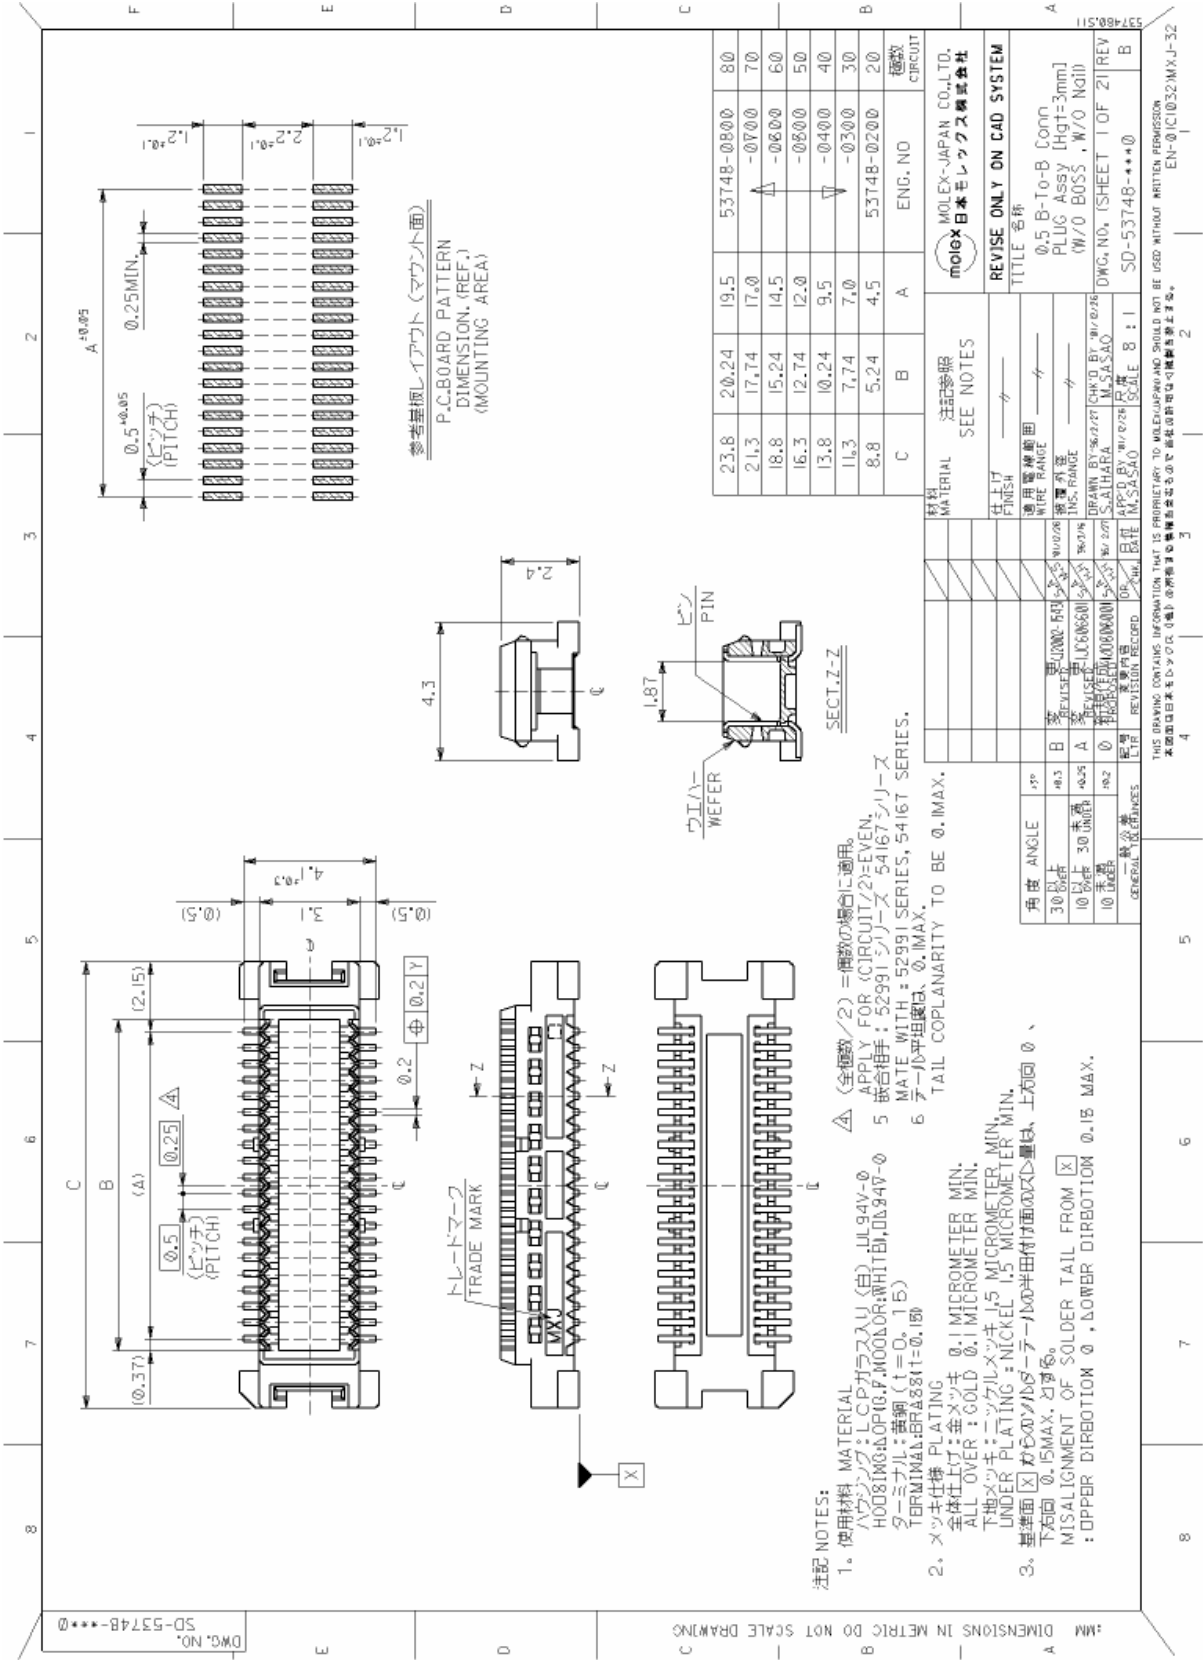

Figure 45: Mating board-to-board connector 53748-0808 on application
- 53748-0808 SlimStack Plug, 3mm stacking height, see Figure 45 for details.